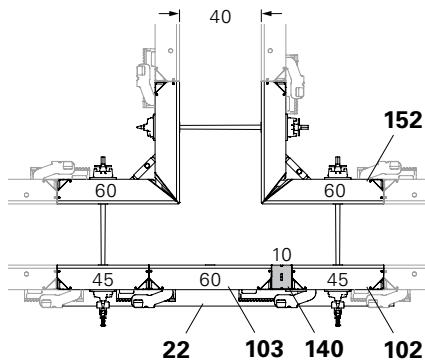

Fig. B5.07
- Wall thickness 40: Fig. B5.07